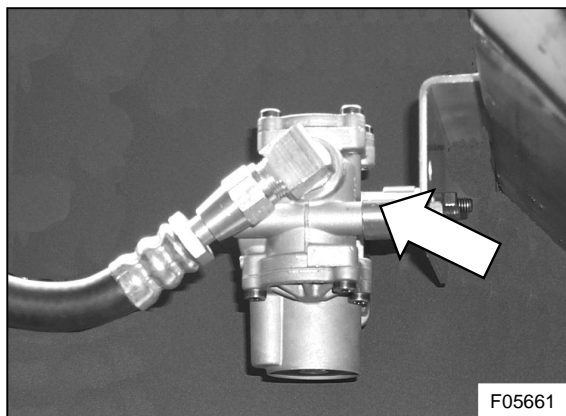

Figure 16: ABS valve (right hand shown)
- 1) Underneath the coach, locate the left and right hand ABS valves (see Figure 16) in the chassis section ahead of the front axle wishbones.